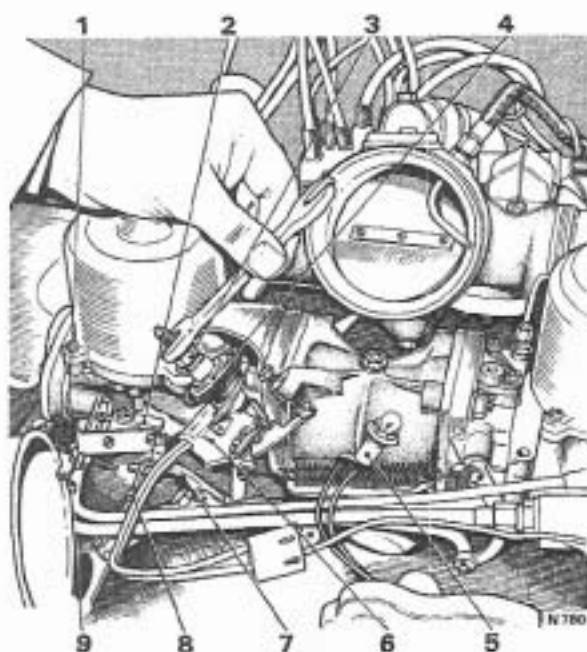

FIG. T138 ADJUSTING THE DAMPER AND SWITCH
6. Slacken the two $\frac{1}{16}$ in. U.N.F. nuts on the switch mounting spindle (see Fig. T138). Adjust the position of the switch and damper assembly so that the test lamp lights just before the throttle closes completely and extinguishes when the throttle is just clear of its off-stop. Tighten the nuts in this position.